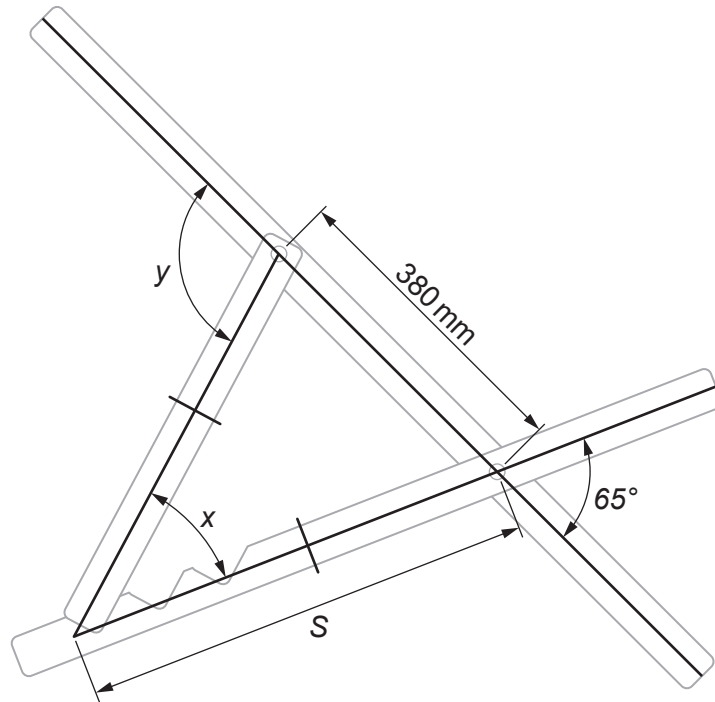

Fig. 2.3
- (a) The height of the deck chair can be adjusted to different angles depending on which slot the bar is placed. The diagram in **Fig. 2.3** shows the deck chair in its most reclined position.